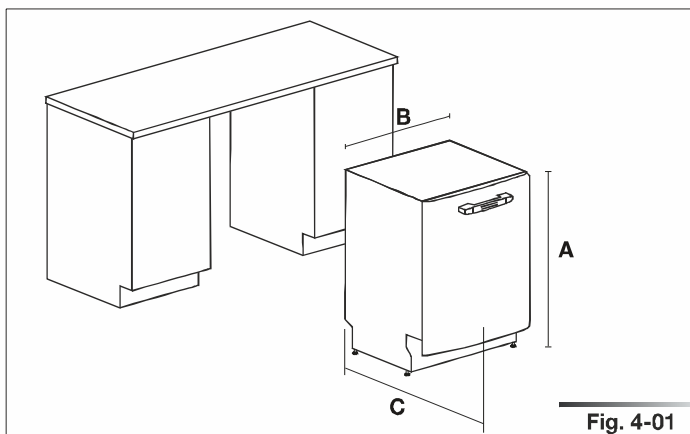

Fig. 4-01
The progressive number of each figure is shown in the bottom right-hand corner of the relative box. An example of a progressive number is "Fig. 4-01", where the first number (4) indicates the section to which the figure belongs, while the second number (01) indicates the progressive number of the figure in section 4 (Fig. 4-01 is the first figure in section 4). The tables are numbered in the same way, bearing in mind that "Tab." is used instead of "Fig." (e.g.: Tab. 4-01 is the first table in section 4). If a table occupies more than one page, a letter is added after the progressive number (e.g.: "Tab. 4-01a", Tab. 4-01b").
4 DIMENSIONS OF DISHWASHER (See fig.4-01)